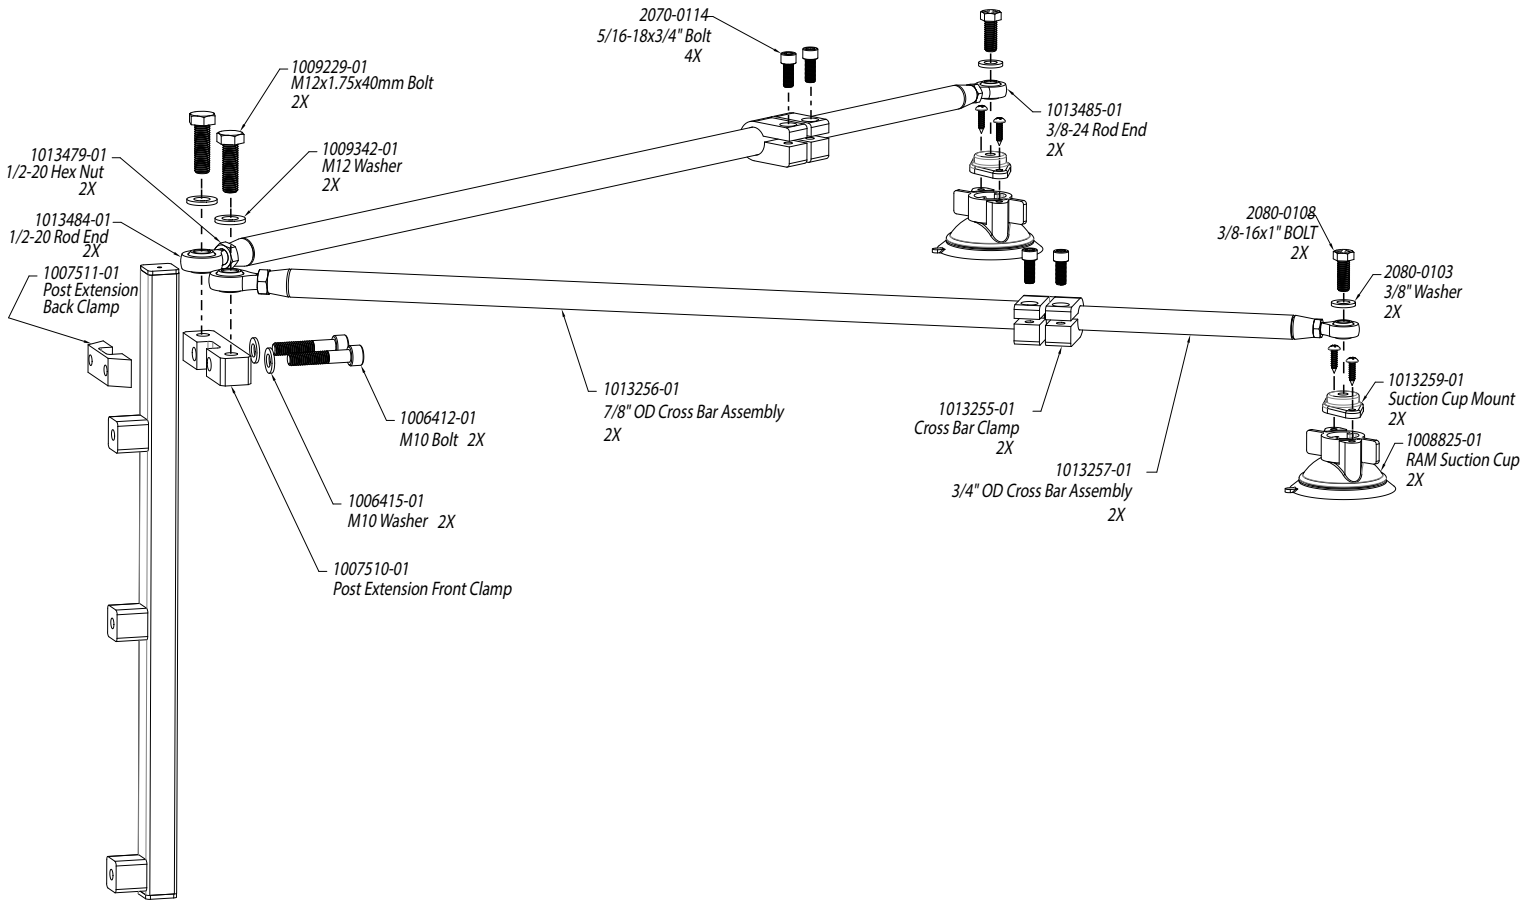

Figure 2: Cross Bar Suction Mount
1. Fasten the threaded mount to the RAM vacuum cup using the supplied screws. See Figure 2.